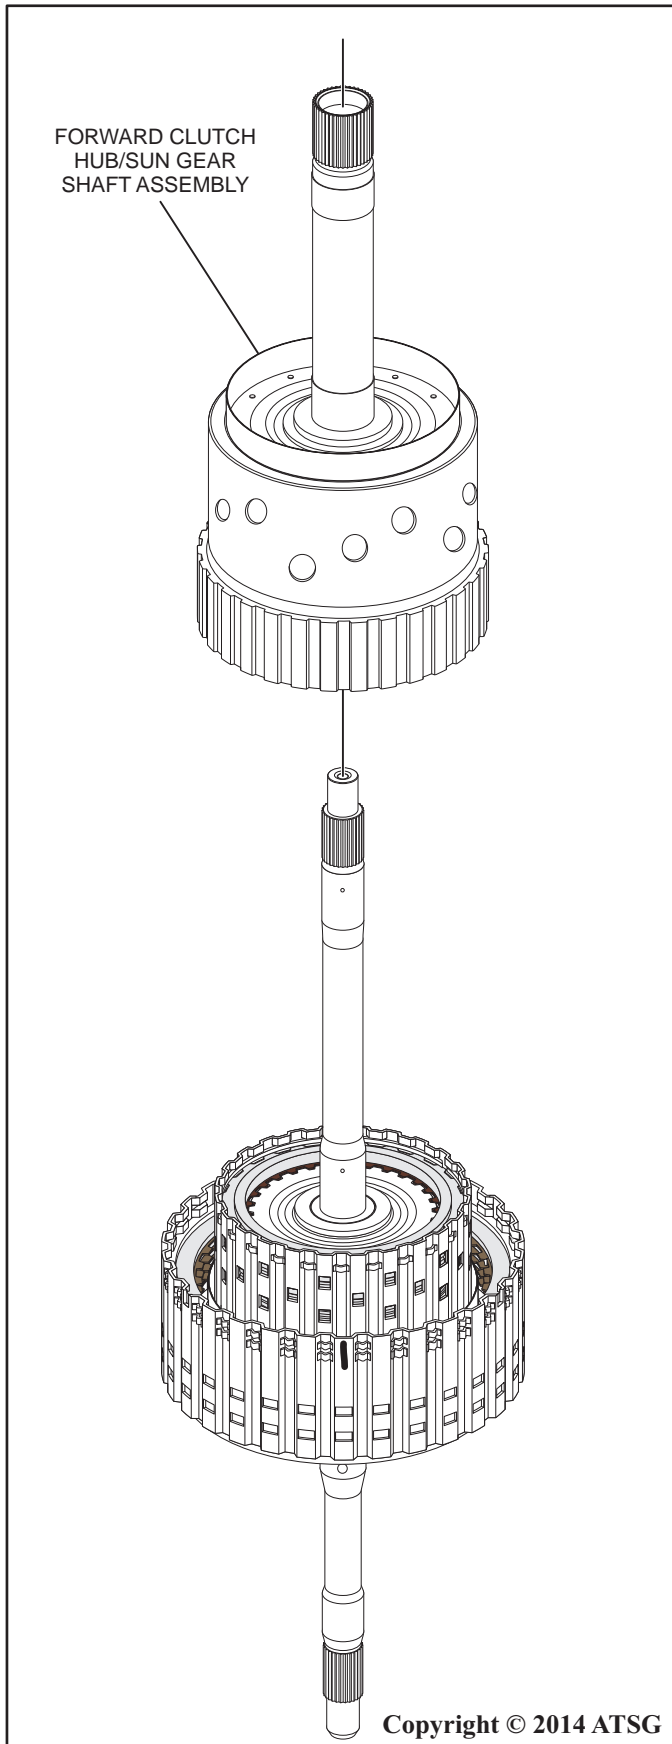

Figure 72
4. Remove the forward clutch hub/sun gear shaft assembly as shown in Figure 72.